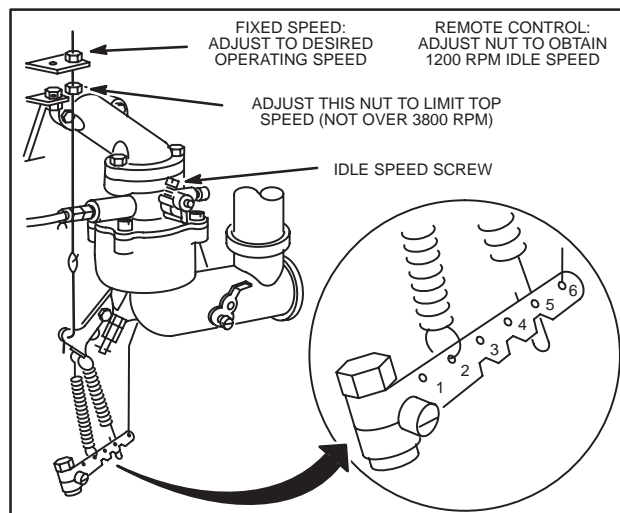

Fig. 329 – ADJUSTING TOP LOAD RPM
3. After speed is set, tighten lower stop nut (except for remote control. Refer to Fig. 329).
Loosen lower stop nut. Adjust top stop nut to obtain top-no-load RPM as listed in Engine Sales Manual, MS-4052 or MS-6225, Service Engine Sales Manual microfiche under note column, or MAXIMUM RPM TABLE at end of each manual for the engine model. After speed is set, tighten lower stop nut, Fig. 329.
Adjust lower stop nut to obtain top-no-load RPM as listed in Service Engine Sales Manual, MS-4052 or MS-6225, Service Engine Sales Manual microfiche under NOTE column, or MAXIMUM RPM TABLE at end of each manual for the engine model, Fig. 329.